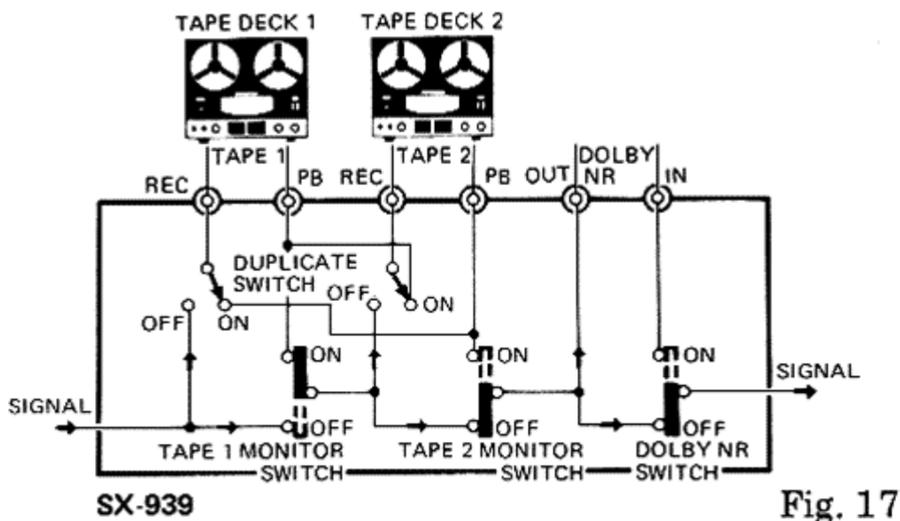

Fig. 17
1. Connect the two tape decks as shown in Fig. 17.
4. When recording with tape deck 1, TAPE MONITOR switch 1 should be switched ON to monitor the sound being recorded, and when recording with deck 2, TAPE MONITOR switch 2 should be switched ON for monitoring (refer again to Fig. 17).